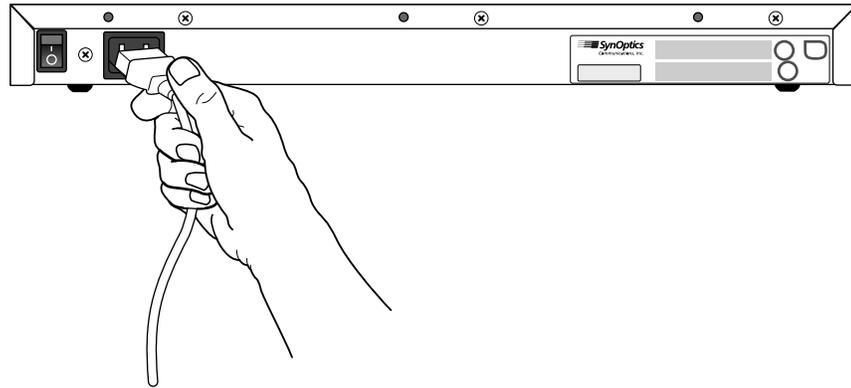

Figure 2-3. Connecting Power Cord
3. **Connect the power cord, first to the power entry receptacle on the back of the concentrator (see Figure 2-3), and then to the wall.**